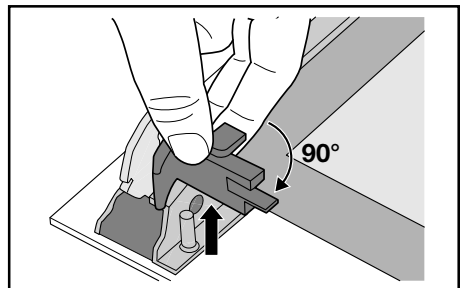

Fig. 14
- 8) turn the 2 fasteners 90° and extract them from their seats (Fig. 14);